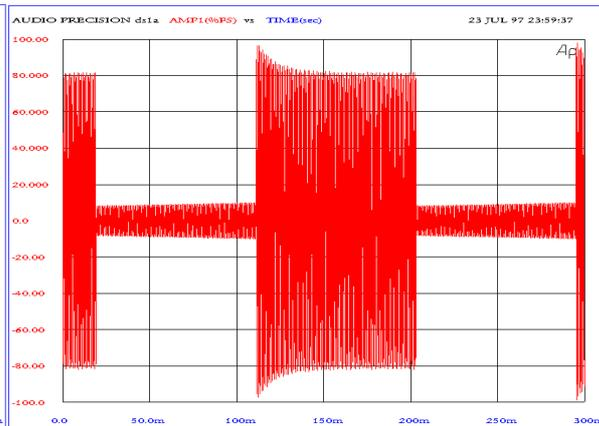

Fig. 2
**Fig. 2** A very short preview time combined with a long attack time cause an overshoot at the onstart of the burst. As the sidechain reacts to the input signal (slowly because of the long attack time) the level of the burst is brought to the anticipated level.